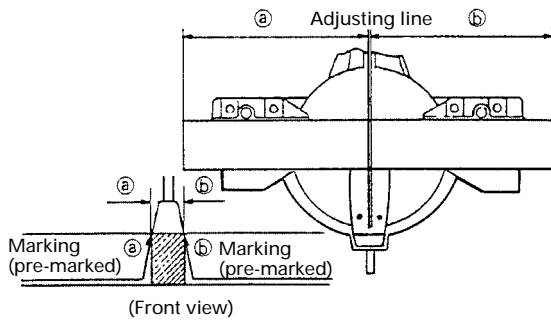

Fig. 26
- (1) As shown in Fig. 26 the width of the saw blade is the width of the cut. Therefore, slide the workpiece to the right (viewed from the operator's position) when length **b** is desired, or to the left when length **a** is desired.